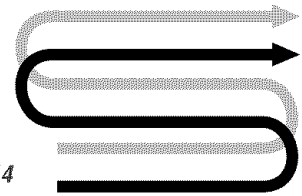
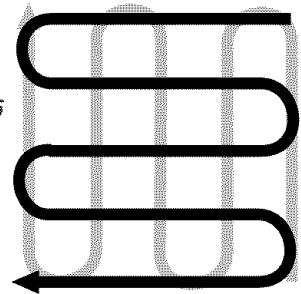

Figure 4-14
Figure 4-15
- When preparing a seedbed, go over the same path twice in the first row, then overlap one-half the tiller width on the rest of the passes (Figure 4-14). When finished in one direction, make a second pass at a right angle as shown in Figure 4-15. Overlap each pass for best results (in very hard ground it may take three or four passes to thoroughly pulverize the soil).